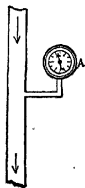

FIG. 10. The pressure gage A indicates the pressure of the water in the pipe.
9. Measurement of Pressure. Voltmeter. When we wish to measure the water pressure in a pipe, we tap a pressure gage on to the pipe line, as (A) in Fig. 10. Note that no current flows through the gage. It is merely tapped on to the pipe at the point at which we wish to measure the pressure, so that the pressure can get at it and cause it to indicate. The pipe, and current flowing through it, are not disturbed. Similarly, when we wish to measure the electric pressure causing an electric current to flow through, say a lamp, we do not disturb the circuit nor the current flowing